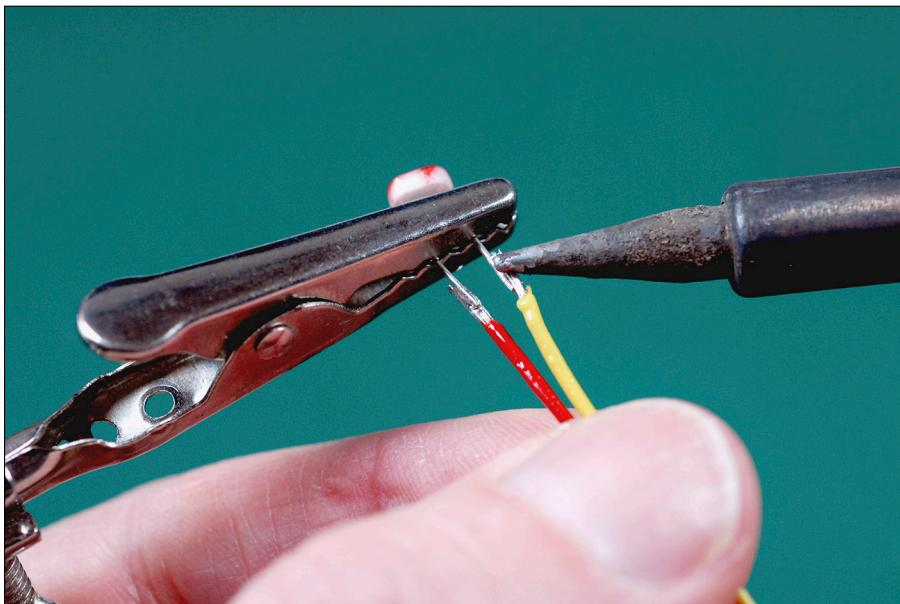

Figure 12-6:
- 6. For the light sensor, solder only two wires to your LDR, one for power and one for signal, as shown in Figure 12-6.**